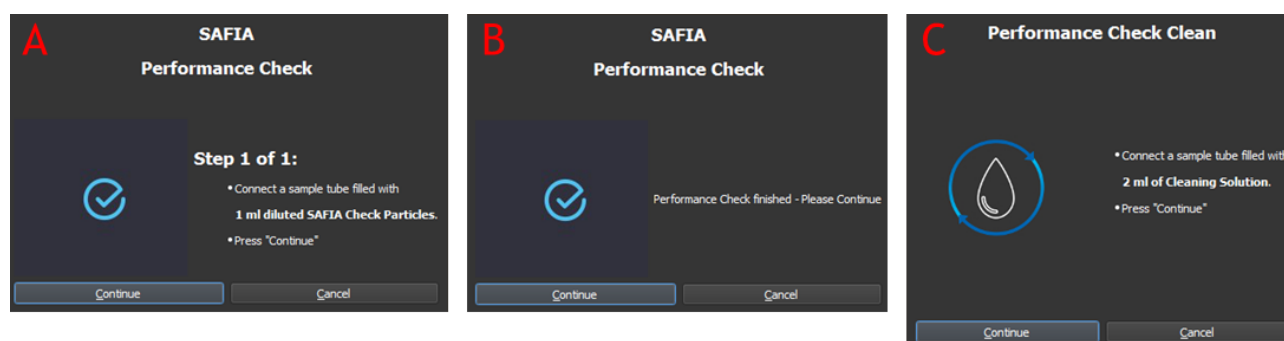

Figure 6. View of the instructions for the QC programme sequence
2. Click Start  and follow the instructions in the QC programme (see Figure 6). If no particles are detected, follow the instructions in section 10.1.
6. Run the Performance Check Clean program in CyView. Once the measurement is complete, a window will open automatically to guide you through the process (see Figure 6 C). The cleaning process starts automatically and removes any remaining particles from the device.